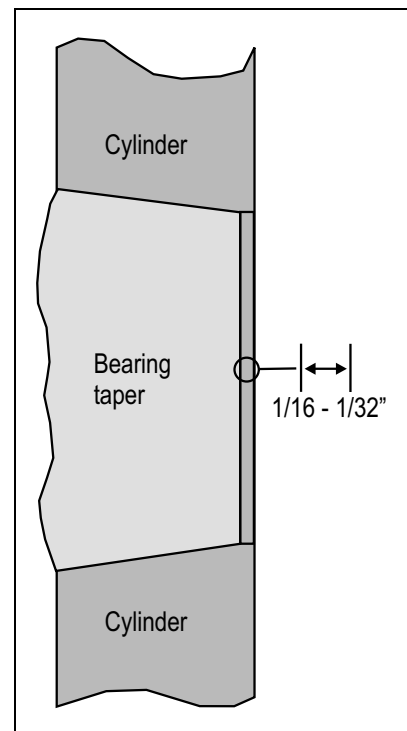

FIGURE 14 (MSSM0285AE)
2. Periodically stop during the pressing process and check how far the cylinder has moved up the bearing hub. Stop pressing when cylinder is 1/16-1/32" of an inch from end of the hub (Figure 14). If the cylinder does not stop where indicated, and pushes flush with the bearing taper, then check the bearing taper.